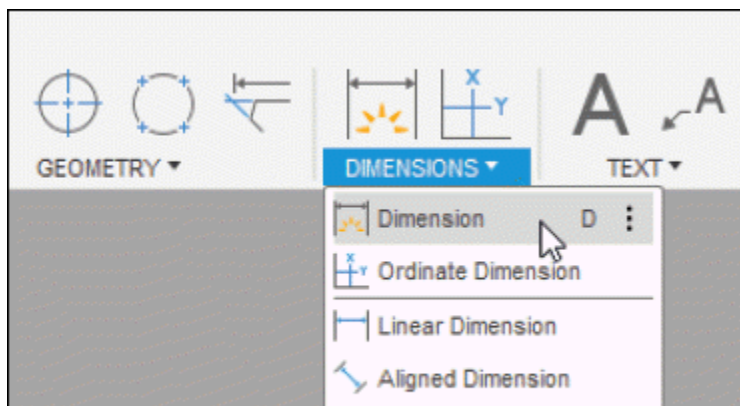

Figure-50. Dimension tool
- Click on the **Dimension** tool from **DIMENSIONS** panel; refer to Figure-50. The tool will be activated.